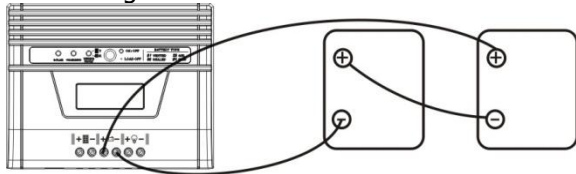

Fig. 5
**1) Multiple batteries in series connection (Refer to Fig. 5):** All batteries must be equal in voltage and amp hour capacity. The sum of their voltages must be equal to the nominal DC Voltage of the unit.